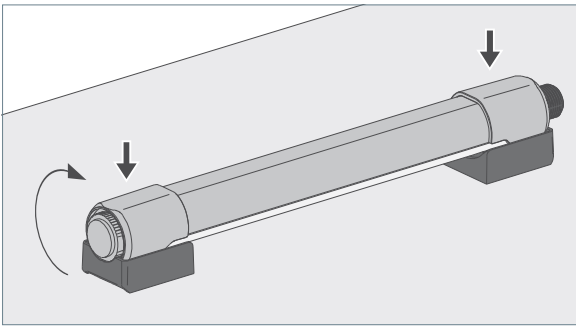

Fig. 11: Mounting the luminaire.
- ▶ Turn the luminaire along the holders by at least 90° , so that the detent lugs of the holders snap into the grooves of the side parts of the luminaire, see Fig. 11.